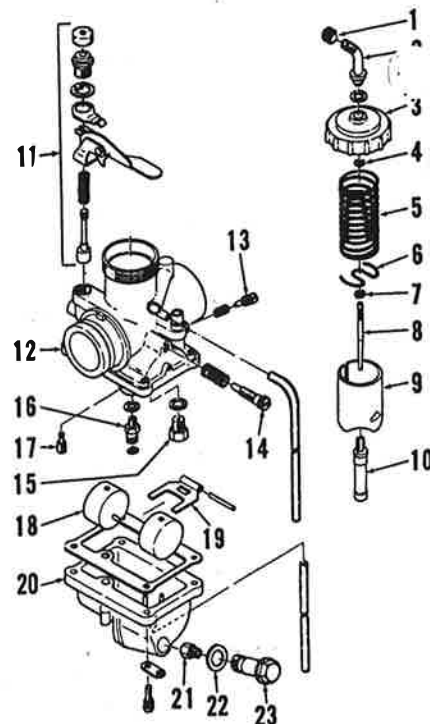

Fig. Y19-1—Exploded view of typical Mikuni carburetor assembly.
**CARBURETOR.** Mikuni sliding valve carburetors are used on all models. Refer to Fig. Y19-1 and following recommended carburetor specifications: